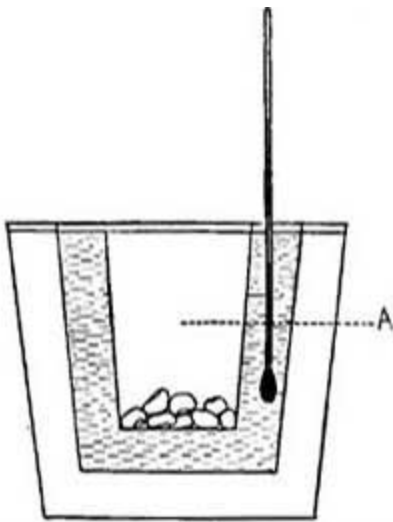

FIG. 26.—The bomb calorimeter from which the fuel value of food can be estimated.
The fuel value of a food is determined by means of the *bomb calorimeter* (Fig. 26). The food substance is put into a chamber A and ignited, and the heat of the burning substance raises the temperature of the water in the surrounding vessel. If 1000 grams of water are in the vessel, and the temperature of the water is raised 2° C., the number of calories produced by the substance
62. The Fats. The best-known fats are butter, lard, olive oil, and the fats of meats, cheese, and chocolate. When we test fats for fuel values by means of a calorimeter (Fig. 26), we find that they yield twice as much heat as the carbohydrates, but that they burn out more quickly. Dwellers in cold climates must constantly eat large quantities of fatty foods if they are to keep their bodies warm and survive the extreme cold. Cod liver oil is an excellent food medicine, and if taken in winter serves to warm the body and to protect it against the rigors of cold weather. The average person avoids fatty foods in summer, knowing from experience that rich foods make him warm and uncomfortable. The harder we work and the colder the weather, the more food of that kind do we require; it is said that a lumberman doing heavy out-of-door work in cold climates needs three times as much food as a city clerk. Most of our fats, like lard and butter, are of animal origin; some of them, however, like olive oil, peanut butter, and coconut oil, are of plant origin.